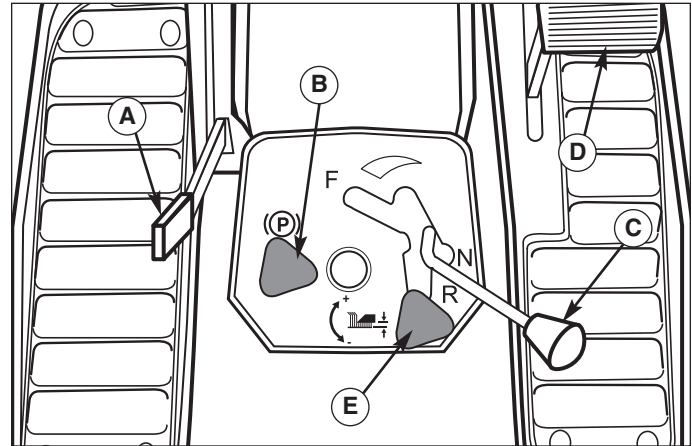

Figure 4. Controls
1. Remove the fuel cap (A, Figure 4).
Ground speed is selected by depressing the clutch/brake pedal (D, Figure 4) and moving the control lever (C, Figure 4) to the appropriate speed selection. If the terrain is rough, hilly or sloping, use first or second gear. If the grass is wet or over 3" (76mm) high, use full engine speed (with slow ground speed) so the mower will have enough power to cut the grass.
1. If you are ready to mow, lower the mower from the transport position using lever (A, Figure 4) and set the mowing height using the Dial-A-Cut™ Control (E, Figure 4).
4. Release the parking brake by depressing the clutch/brake pedal and pushing knob (B, Figure 4) down.
5. Move the ground speed control lever (C, Figure 4) to the desired direction and speed of travel to set the rider in motion.
1. Move the ground speed control lever (C, Figure 4) into the NEUTRAL position to make a gradual stop. To make a more rapid stop, depress the /brake pedal (D, Figure 4).
2. Engage the parking brake by fully depressing brake pedal and pulling up on parking brake knob (B, Figure 4).
1. When traveling to or from the work site, fully raise the mower using the mower lift lever (A, Figure 4). At the work site, lower mower using the lift lever.
2. Use the Dial-A-Cut™ control (E, Figure 4) to adjust the height of the mower. Pull back slightly on mower lift lever (A, Figure 4) to relieve pressure and turn clockwise to raise mower cutting height, or counter-clockwise to lower cutting height.